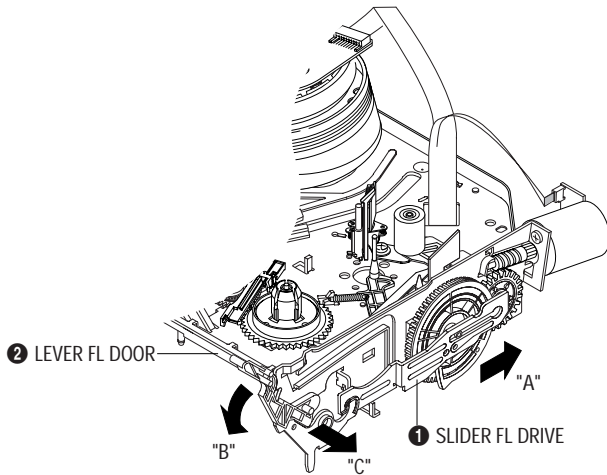

Fig. 5-13 Lever FL Door Removal
- 2) Remove the Slider FL Drive **1** in the direction of arrow. (Refer to Fig. 5-13)